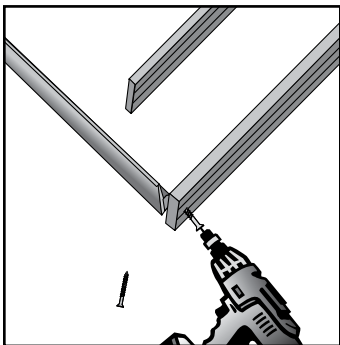

Fig. 13
4. Attach and fasten jamb legs to sill using 1-1/2" screws into pre-drilled holes on outside jamb (**Fig. 13**).